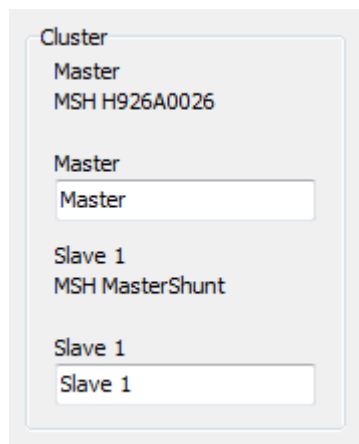
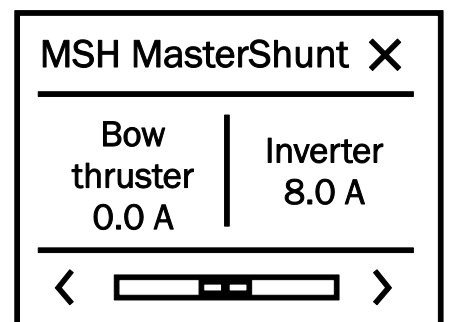

Figure 8: Renaming MasterShunts
Figure 9: Masterview display
For load currents which exceed 300A continuous current, more than one MasterShunt can be installed to monitor the same battery (bank). The MasterShunts are then configured in parallel to the battery, like shown. Figure 8 shows the parallel configuration of two MasterShunts (3) and (4) and other products.
- Select the serial number(s) of the other MasterShunt(s), refer to figure 9. These MasterShunt(s) will be the slave(s).
The currents however are shown separately, see Figure 9. This means, renaming the MasterShunts can be convenient (see Figure 8)